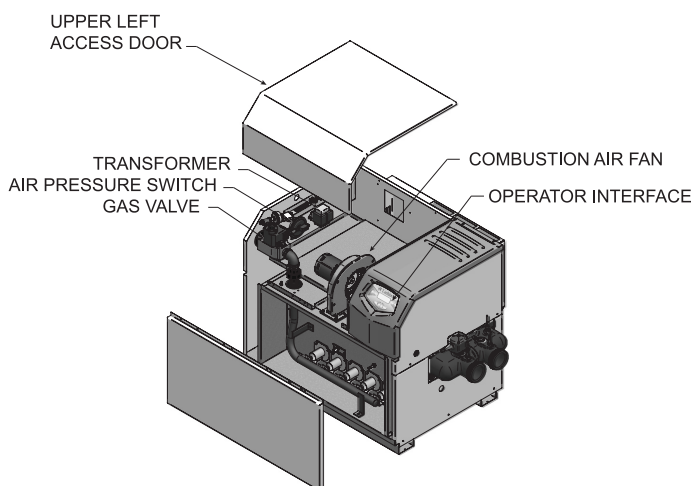

Figure 2-6_Combustion Air Fan Location
2. Remove the upper left access door (FIG. 2-6).